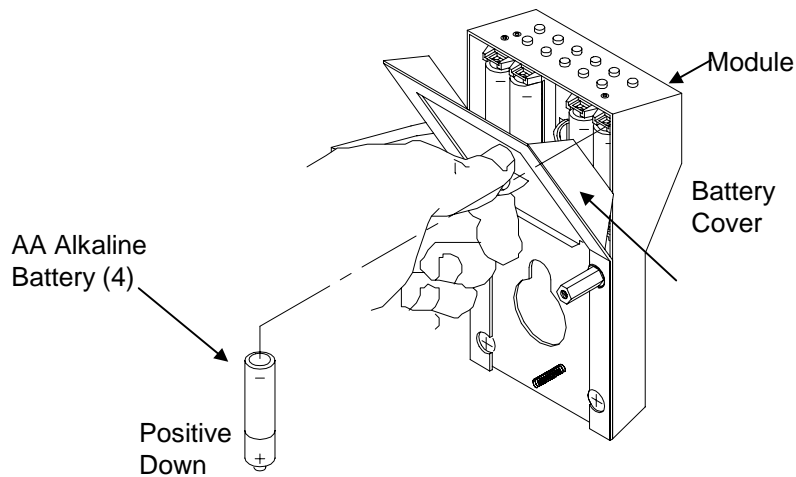

Figure 7 Battery Replacement
- Step 6 Using the tab on the Battery Cover, carefully pull the Battery Cover away from the Housing to expose the Batteries (Figure 7).
Step 7 Remove and replace each of the old Batteries, **one at a time**, with the plus (+) end *down* (Figure 7)